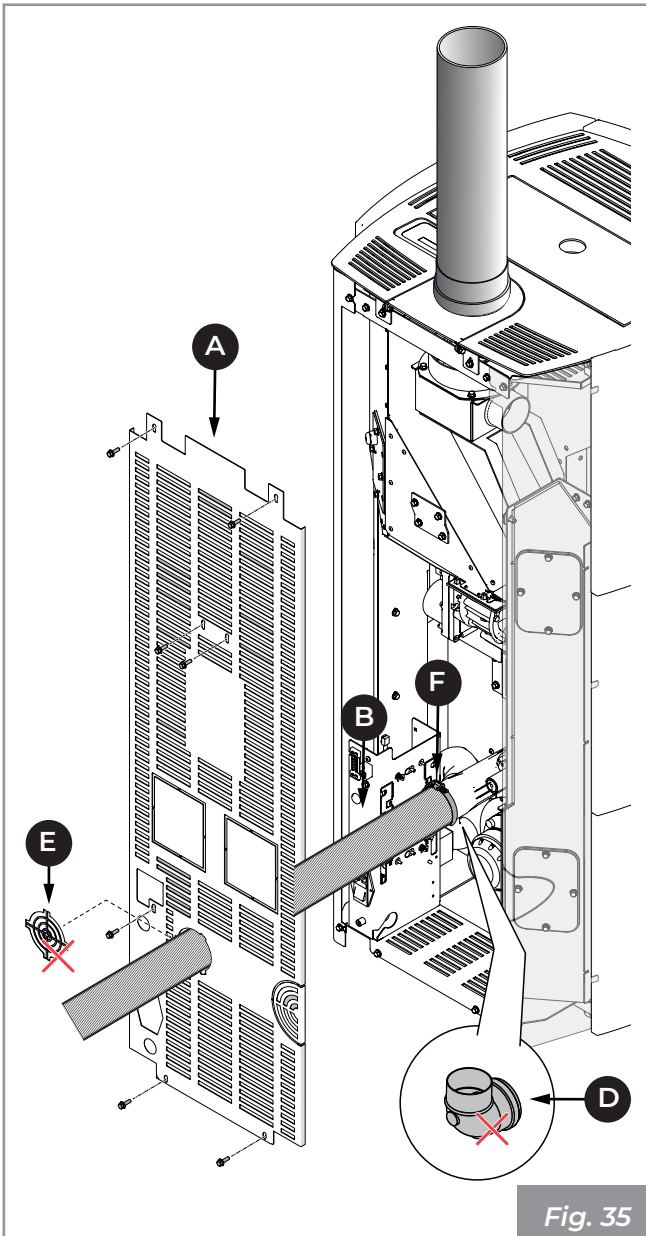

Fig. 35
- Remove the preform **(E)** on the back panel **(A)** and insert the flexible hose **(B)** to connect it to an outside air intake **(Fig. 35)**.